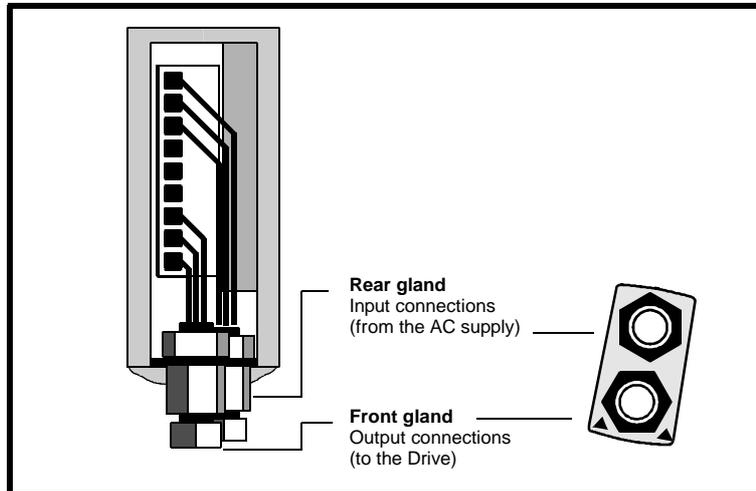

Figure 4–7 Assignments of the glands (when used) in the terminal chamber of the RFI filter
- 4 Make the connections shown in Figure 4–9.